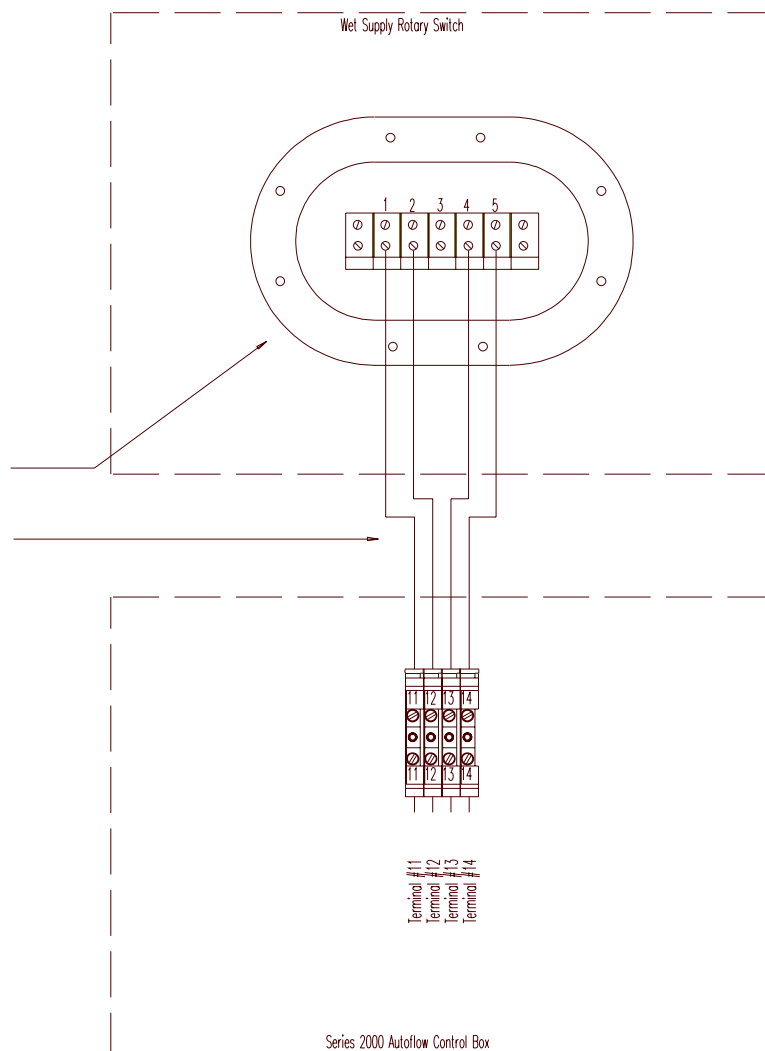

Figure 21
- 1) Run Four (4) control wires from the Autoflow Control Box to the Wet Supply Rotary Switch.
- 2) Connect the wires as shown in figure 21.